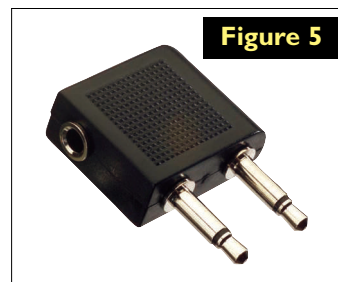

Figure 5
A. The last time I flew (last summer to Hawaii), the connection was a dual, 3.5 mm phone plug with electronic earphones — not the air-powered headsets of yesteryear. If you don't like the airline's earphones, you can buy an Earhugger EHA-18 earphone adapter (Figure 5) that lets you plug your own stereo headphones into the airline jack. They are available from several retailers and sell for as little as \$3.00.